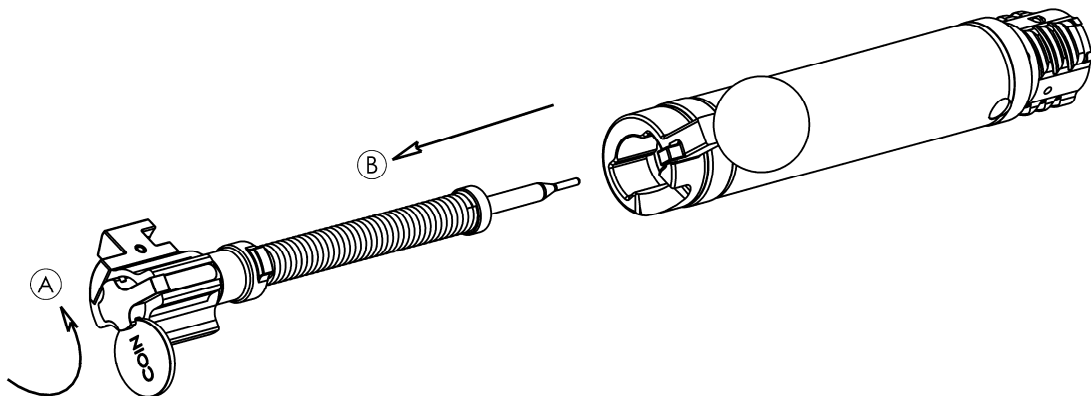

Figure 14.
3. Rotate the cocking piece shroud counter clockwise about 120 degrees (Figure 14, Step A) and withdraw (Figure 14, Step B) from the bolt tube complete.